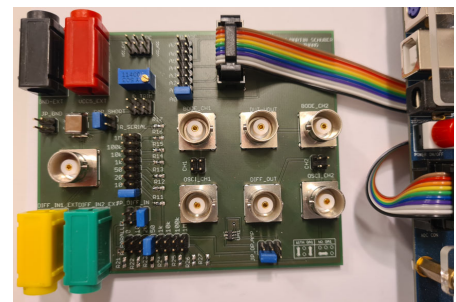

Fig. 4.2: The DC/DC buck converter setup and measurements of this chapter.
- Set jumpers according to Fig. 4.2(a), plot your settings in figure parts (e) and (f).